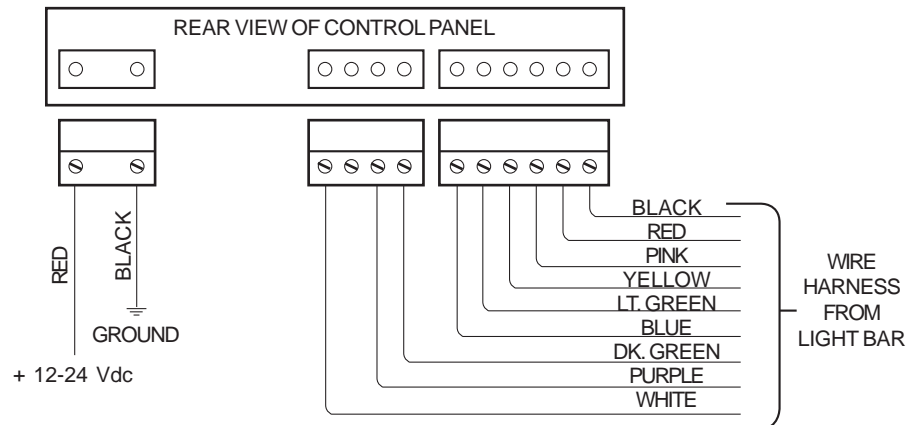
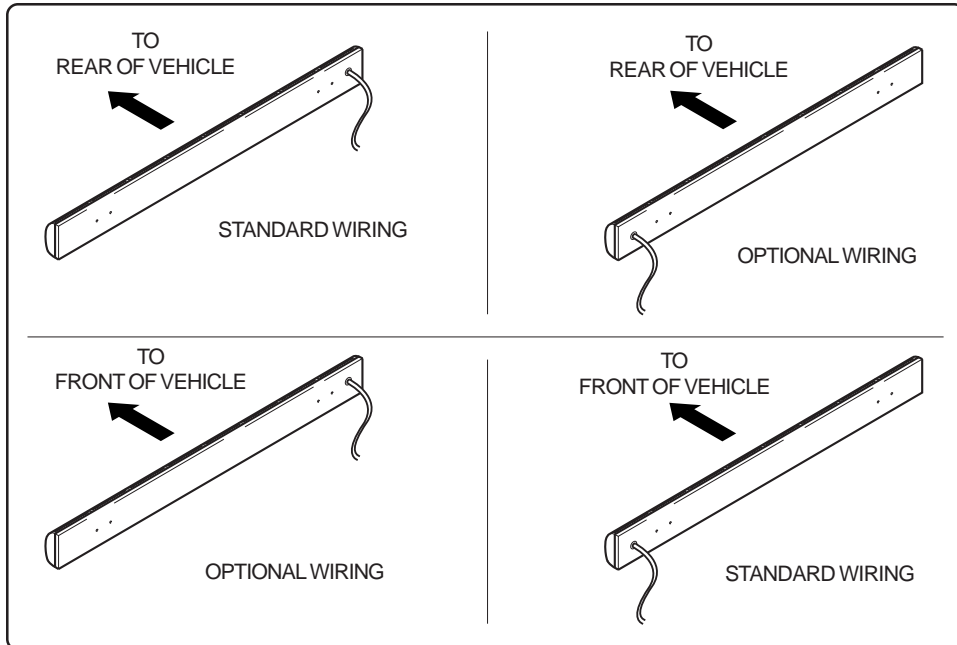

Figure 5. Standard and Optional Wiring Schematics
Figure 2. Mounting Configurations
4. Attach the power and ground wire to the appropriate pins in the 2 pin socket housing as shown in Figure 5.
5. Attach the wires from the 9 wire harness into the appropriate 6 & 4 pin connectors as shown in Figure 5. BE SURE TO PLACE THE PINS IN THE PROPER SEQUENCE!!!
The LED Traffic Master should be mounted using the adjustable "L" brackets which are provided. Refer to page 5 for specific mounting instructions. In addition, note Figure 2, relating to mounting configurations and STANDARD or OPTIONAL wiring specification. See page 7, Figure 5 for specific wiring.